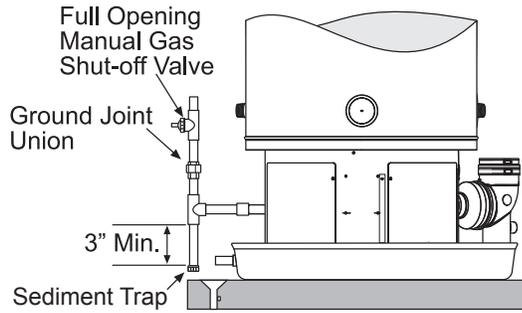

Figure 39. Supply Gas Line Installation
Follow the instructions below and reference **Figure 39** (page 34) for gas piping installation.
4. Install a ground union between the water heater and the manual shut-off valve. This is to allow easy servicing. See **Figure 39** (page 34).
1. For test pressures exceeding 1/2 psi (3.45 kPa) disconnect the water heater and its Main Gas Shutoff Valve from the gas supply piping system during testing. See **Figure 39** (page 34). The gas supply line must be capped when disconnected from the water heater.